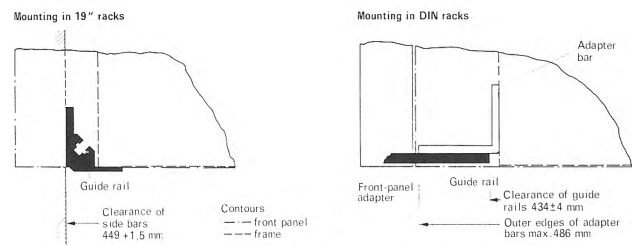
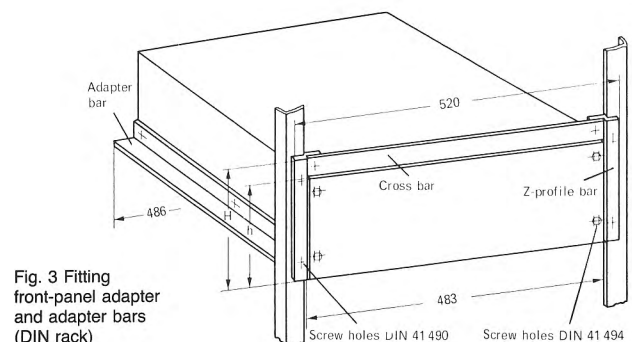

Fig. 1 Guide rails, adapter bars and front-panel adapter fitted for left side of rackmount
Fig. 3 Fitting front-panel adapter and adapter bars (DIN rack)
**Guide rails** are supplied in pairs for from R&S 19" racks or singly for other 19" racks (length 740 mm, no drilled holes); they are suitable for all designs (Fig. 1 left).
**Adapter bars** (2 angle sections) extend the 19" size to DIN width (Fig. 1 right and Fig. 3).
**Front-panel adapters** (three parts) reduce the width and height of the DIN frame to 19" front-panel size (Fig. 3).
**Guide rails** for rack mounting (Fig. 1 right) can be made of commercial angle-profile bars.